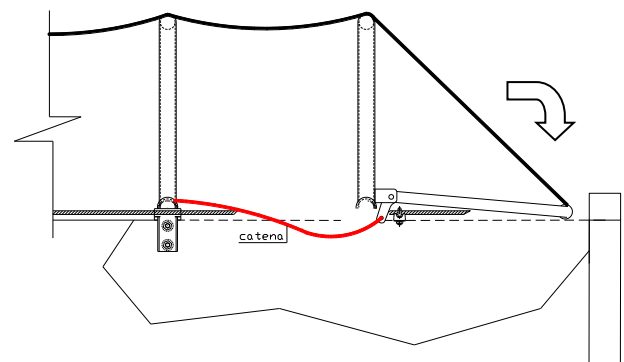

fig. 2
- Push down manually the rear closing system (fig. 2);